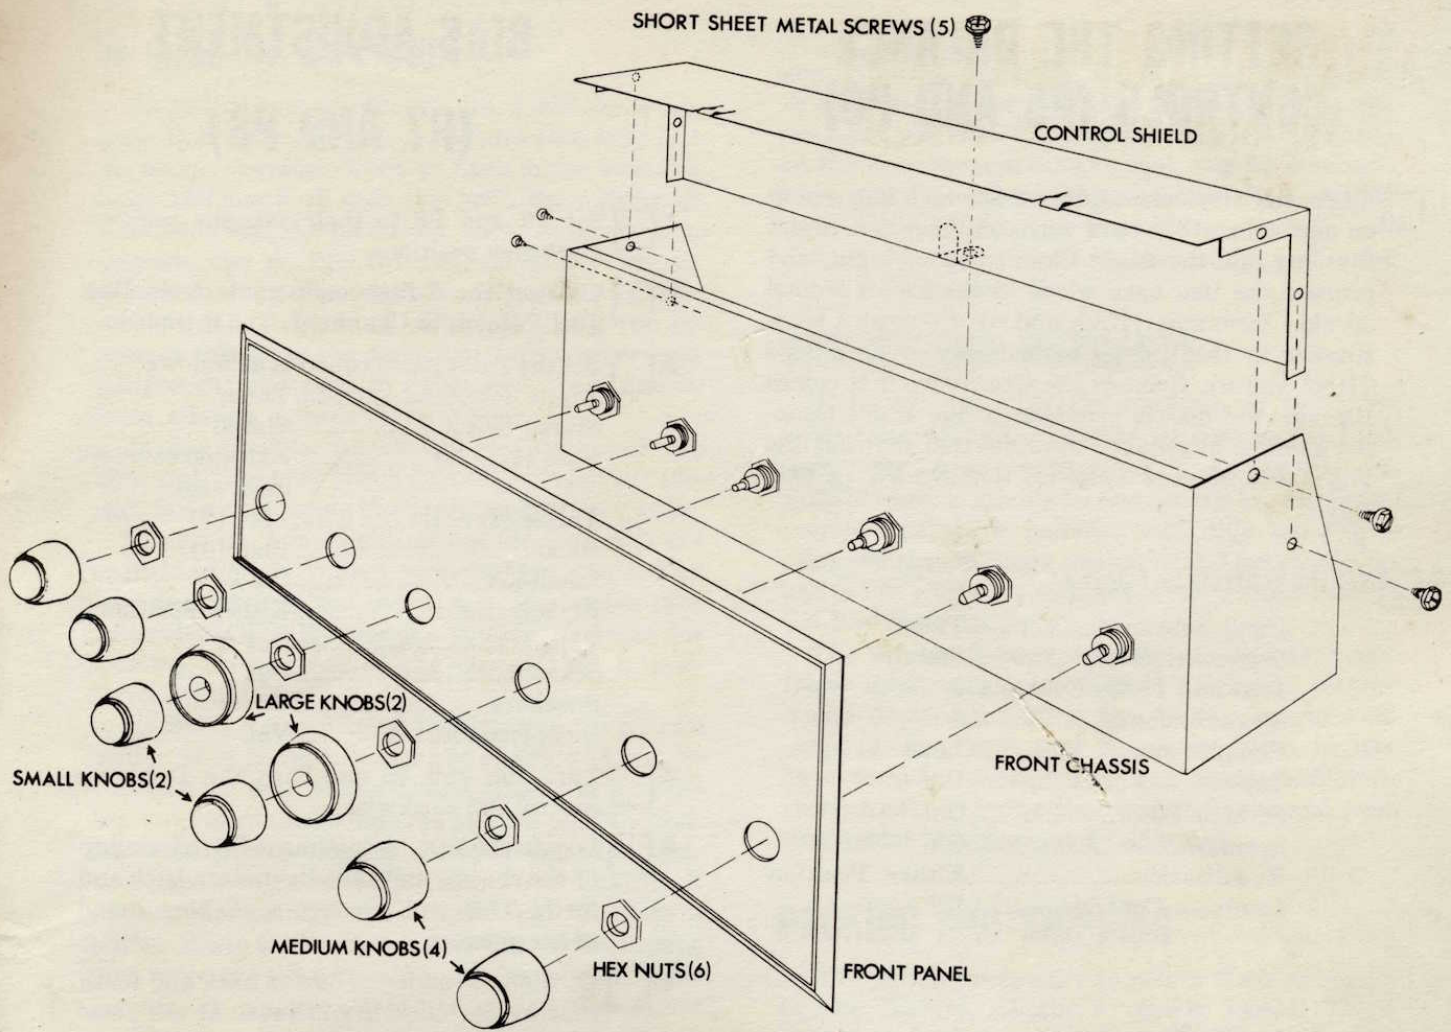

FIGURE 10
- ☒ Assemble the front panel as shown in (Figure 10). Tighten a brass hex nut on the six shafts to hold the panel in place. The shafts on which the four medium sized knobs are to be assembled have a flat surface on one side. Position the knobs on the shafts so that the set screws are tightened against this flat surface. The shafts of the Bass and Treble controls are both concentric. Turn these shafts *full counterclockwise*. Position a large knob on the shaft of the Bass controls so that the indicator line on the knob is in the most counterclockwise position. Tighten the set screw making sure that this shaft stays full counterclockwise, assemble a small knob in the same manner as above. Repeat this procedure for assembling a large and small knob to the shaft of the Treble control.
4. ☒ Assemble the control shield with five of the short  $\frac{1}{4}$ " sheet metal screws. (See Figure 10.)